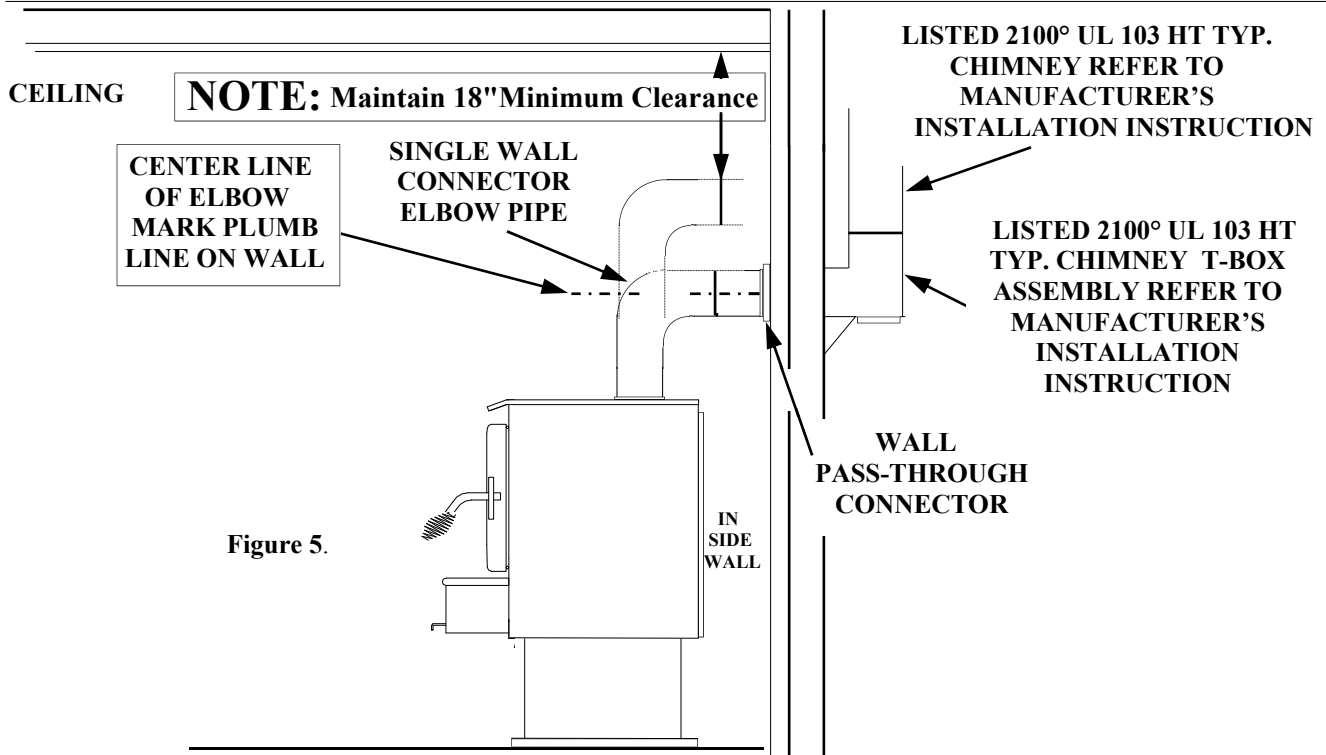

Figure 5.
(See Page 9, Figure 5).
3. Measure up so there will be at least 1/4" rise per foot of horizontal connector pipe, maintaining clearances to the ceiling as noted in (Page 9, Figure 5). This will give you the center of the hole for the chimney penetration.
5. Connect the chimney collar to the tee-box using 6" Single Wall minimum 24 ga. blued or black pipe. (DO NOT USE GALVANIZED PIPE). Connect each section so the crimped end faces downward and secure each section to each other using three (3) sheet metal screws or rivets. Single wall pipe is to be connected with three (3) sheet metal screws rivets to connector collar on heater.(See Page 9, Figure 5).